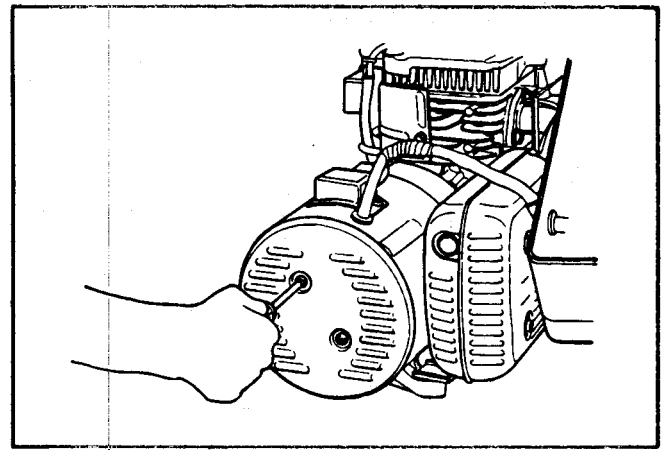

Figure 140
3. Remove the end cover of the generator. See Figure 140.